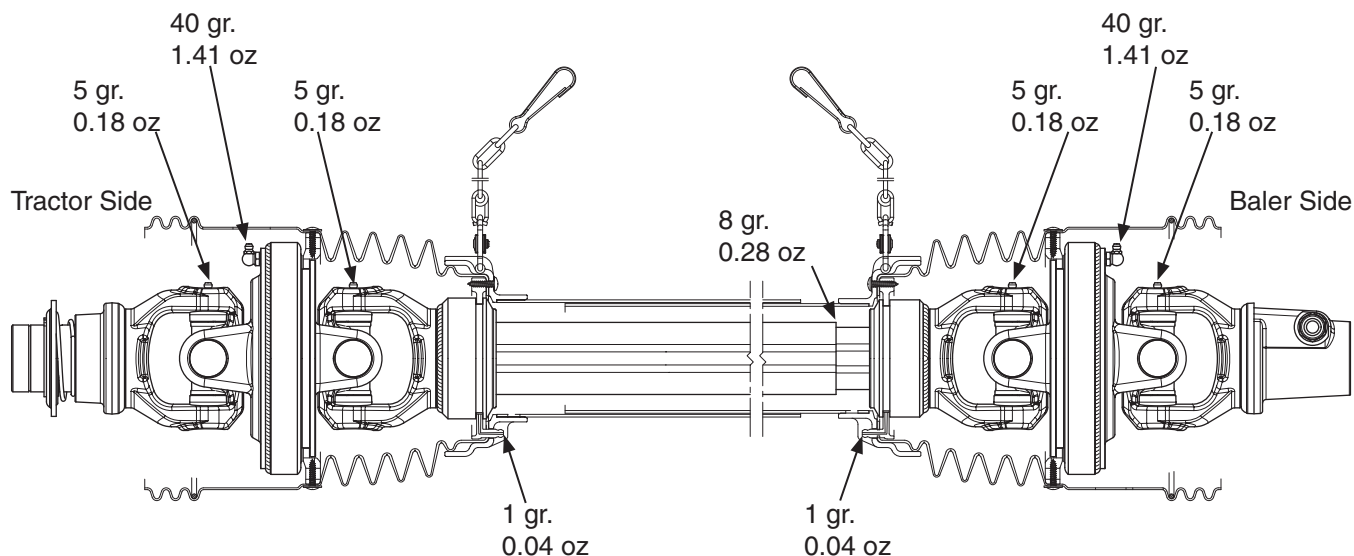

Figure 4 - Driveline Lubrication Points and quantities. Lubricate every 50 hours.
- The shaft and tube of the telescopic shaft should be well-lubricated so that the PTO shaft can telescope freely (see Figure 4).
Lubricate the driveline every 50 hours as shown in Figure 4. The driveline shield may need to be rotated to line up the openings in the shielding with the lubrication fittings.